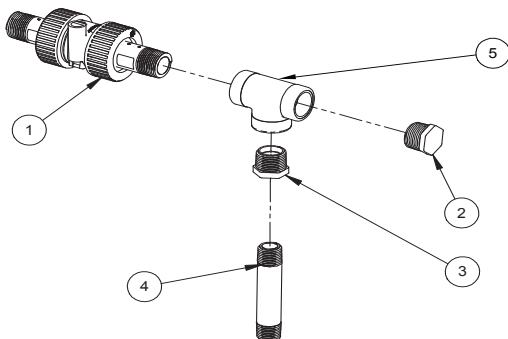

Figure 6 Outlet Fitting Assembly
1. Install $\frac{3}{4}$ " NPT turbine assembly (Item 1 in Figure 6 above) on $\frac{3}{4}$ " NPT tee (Item 5). Tee will now have one port open on the side and one open on bottom.